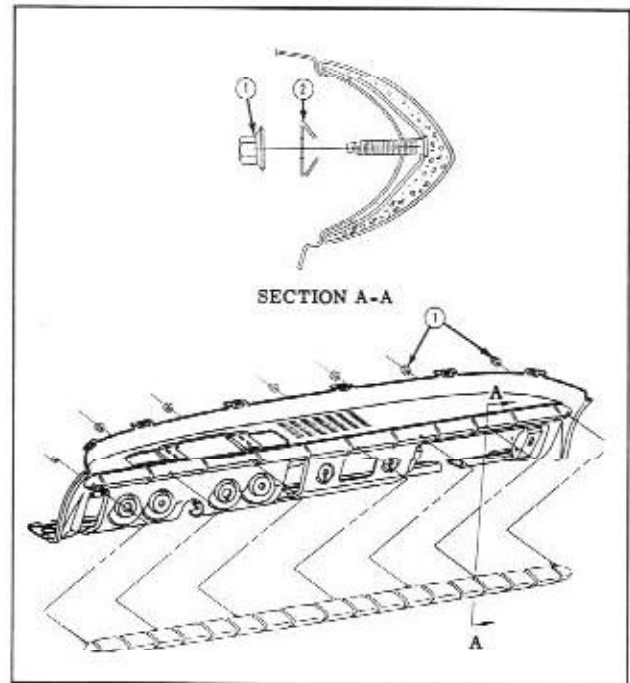

Fig. 15-14 Instrument Panel Cover
The instrument panel cover assembly is a soft molded "Nose" design, applied to the formed surface of the instrument panel and is attached by studs and nuts as indicated by Fig. 15-14.
- When installing, make certain spacer shims are installed over studs as indicated by "2" in Fig. 15-14.